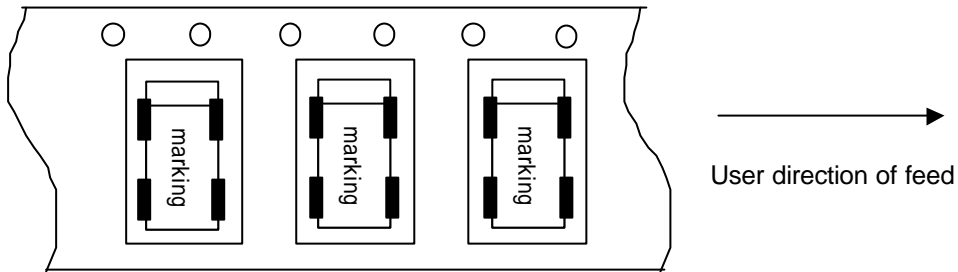

Fig. 1
(1) Taping shall be placed in tapes in such manner as to assure that marking of the components is visible as per Fig. 1